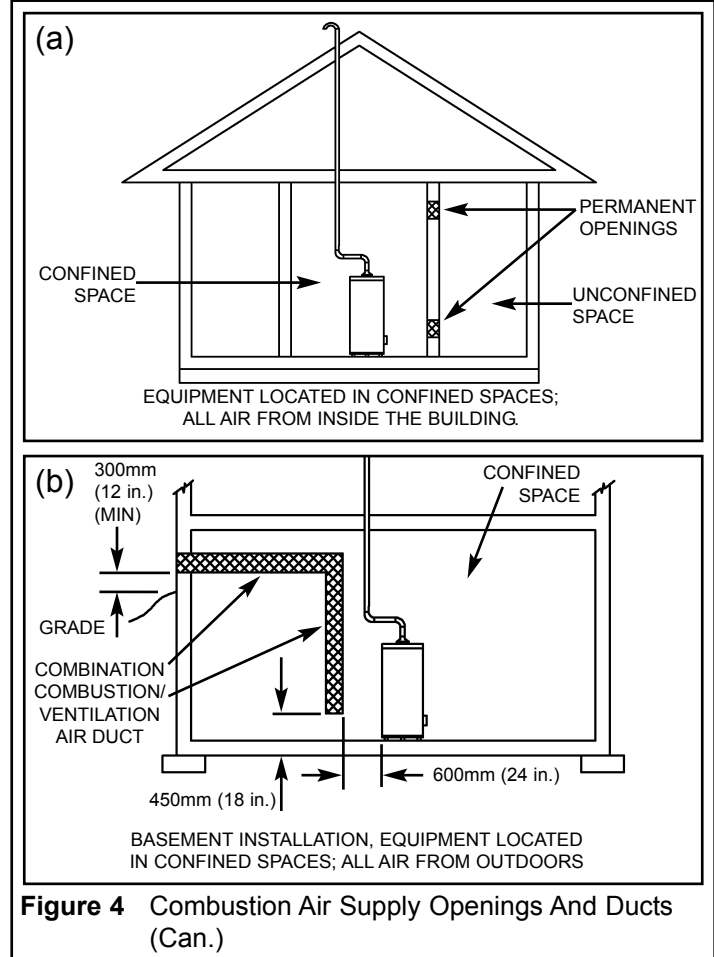

Figure 4 Combustion Air Supply Openings And Ducts (Can.)
Refer to Figure 4 (a), or (b), and Table 1 for proper sizing and location of combustion air ducts and openings. **CHECK LOCAL CODES.**
a). Two permanent openings shall be provided connecting the confined space (e.g., closet, small room) with the unconfined space. Each opening shall have a free area of one square inch per 1,000 BTU/hour input (22 cm²/kW) of all appliances in the confined space. The top opening shall be located as close to the ceiling as practical but never lower than the top of the heater. (see Figure 4 (a)). The bottom opening shall be located neither more than 450mm (18 in.), nor less than 150mm (6 in.), above floor level.
b). When using a single air supply, the duct shall terminate within 300mm (12 in.) above and within 600mm (24 in.) horizontally of the burner level of the appliance having the largest input. For example: GSW’s water heaters’ burners are 150mm (6 in.) from the floor, plus 300mm (12 in.) equals 450mm (18 in.) as shown in Figure 4 (b). All exterior vent openings are to be at least 300mm (12 in.) above the ground and clear of snow levels.